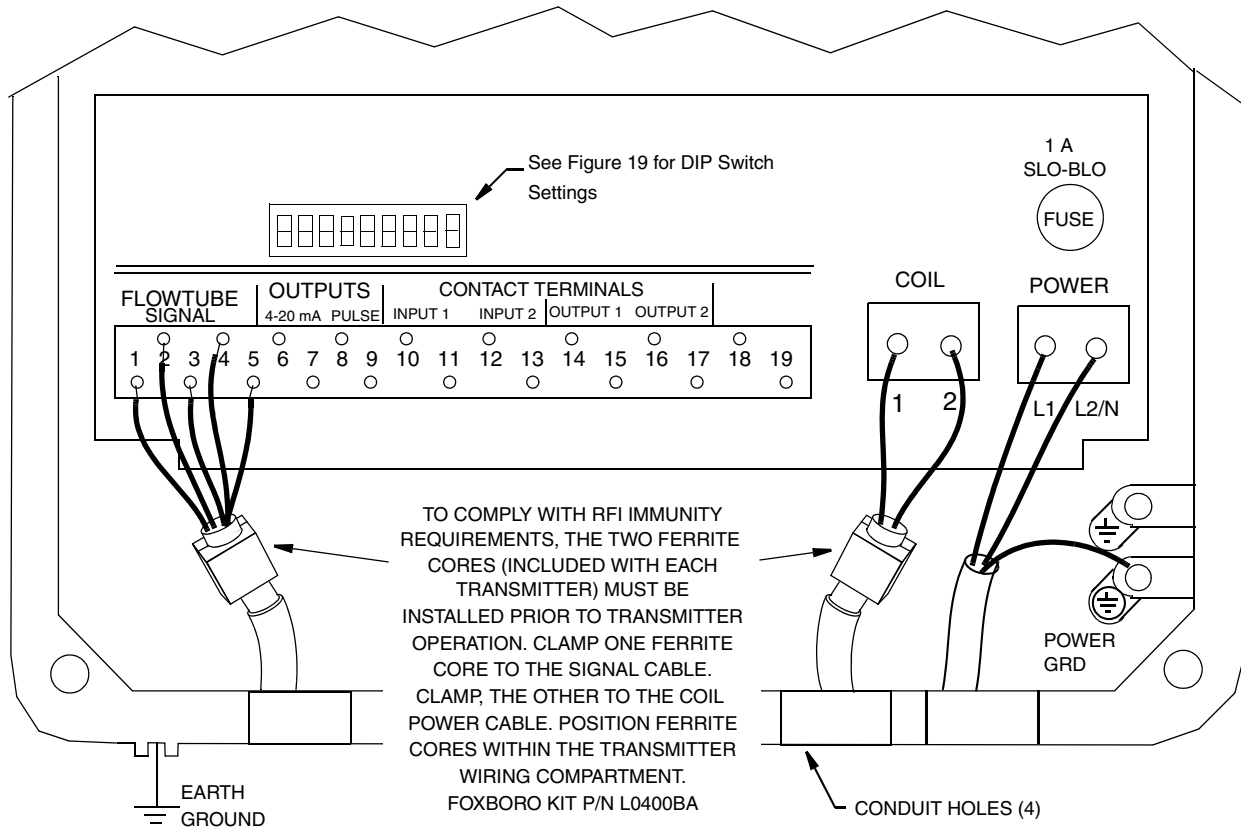
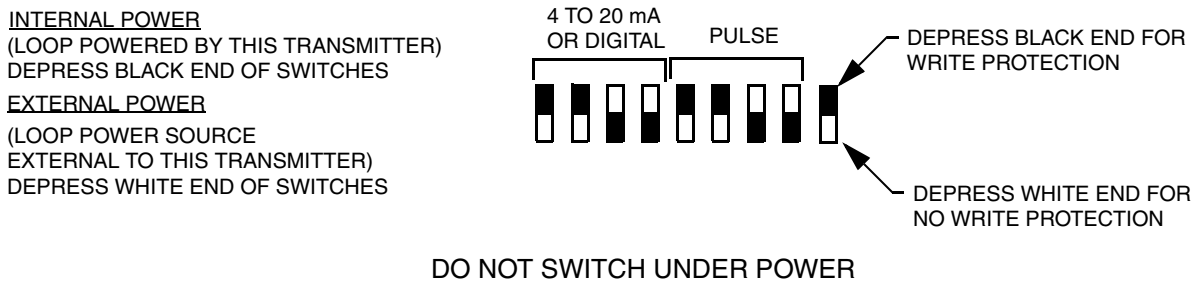
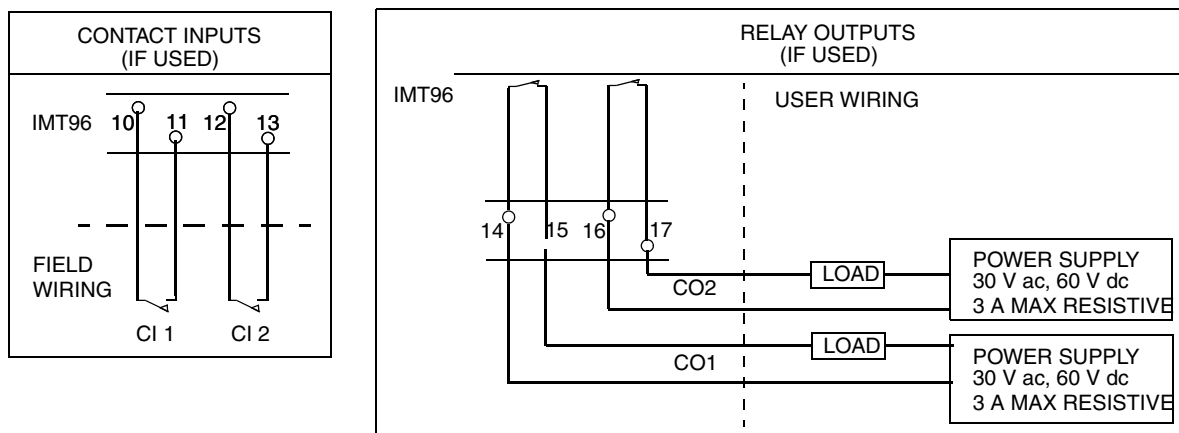

Figure 17. Wiring of IMT96 Transmitter (Foxboro Signal Cable)
Figure 19. Output Loop Power DIP Switch Settings
Figure 25. Contact Input and Relay Output Wiring
(b) Transmitter terminals are shown in Figures 17 and 19.
11. Connect the signal wires from the flowtube to the transmitter signal terminals as shown in Figure 17 and Table 6.
12. Connect the coil-drive wires to the transmitter coil terminals as shown in Figure 17. Tighten the optional gland compression nuts, if applicable.
Transmitter case must be grounded in accordance with local practice. The locations of the ground terminals are shown in Figures 17 and 18.
Internal or external power for the IMT96 output signals is switch selectable. The switches have been factory set as defined by the model code of the transmitter but the setting can be changed. There is a group of nine switches that control internal or external power and the write protect feature (see Figures 17 or 18). The first four of these set the analog and digital loop power. The second group of four control the pulse loop output power. A ninth switch controls the write protect function. Power to the transmitter must be off when changing switch settings and the switches must be set to one of the patterns shown in Figure 19.
The write protection DIP switch allows or prevents anyone from changing the configuration of the transmitter or resetting the totalizer. This feature is usually used in custody transfer applications or when, for any other reason, you want to ensure that the configuration and or totals are not changed. Refer to Figure 19 for switch position. The switch usually has the white end depressed (factory default position) which disables this feature. Depressing the black end of the switch engages the protection.
1. Internal power is set by DIP switches. Refer to Figure 19 and to verify setting or to change to external power.
1. External power is set by DIP switches. Refer to Figure 19 to verify or to change to internal power.
Locations of pulse output terminals are shown in Figure 17. Wiring to these terminals is shown in Figure 25.
Internal or external power is set by DIP switches. Refer to Figure 19 to verify or change setting.
Locations of the contact input and relay output terminals are shown in Figure 17. Wiring to these terminals is shown in Figure 25.